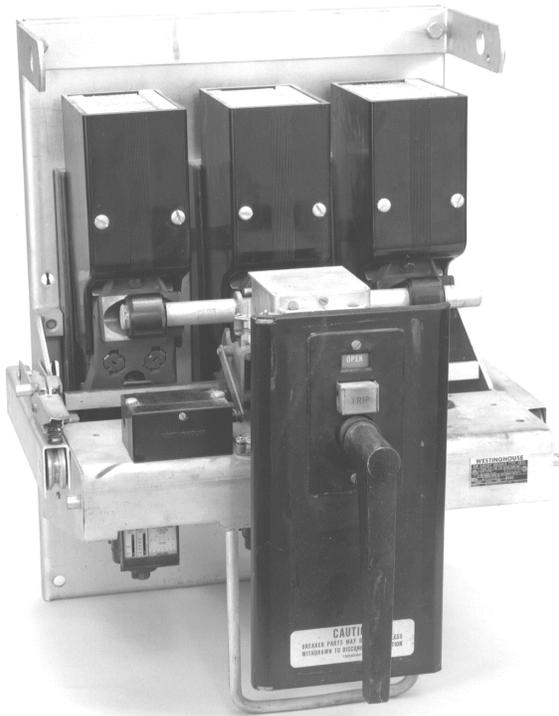

Figure 1. Westinghouse DB-50 breaker removed from its enclosure and ready for conversion.
1. Remove the breaker to a clean, well-lighted work bench and place it upright, so that both the front and back are easily accessible, as shown in Figure 1.